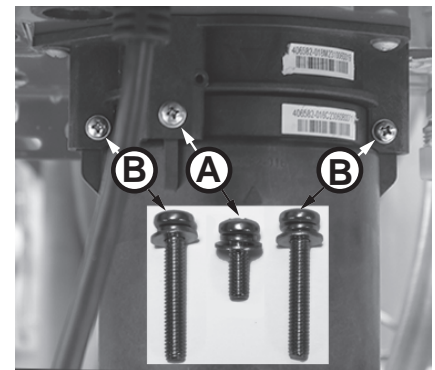

Figure 200 - Identify cartridge screws
- 5** Locate the three (3) screws securing the X3®/Bypass cartridge as shown in Figure 200. Remove the **(A)** M4-12mm screw and the two **(B)** M4-25mm screws from cartridge. Place screws aside in a safe place for reinstallation.